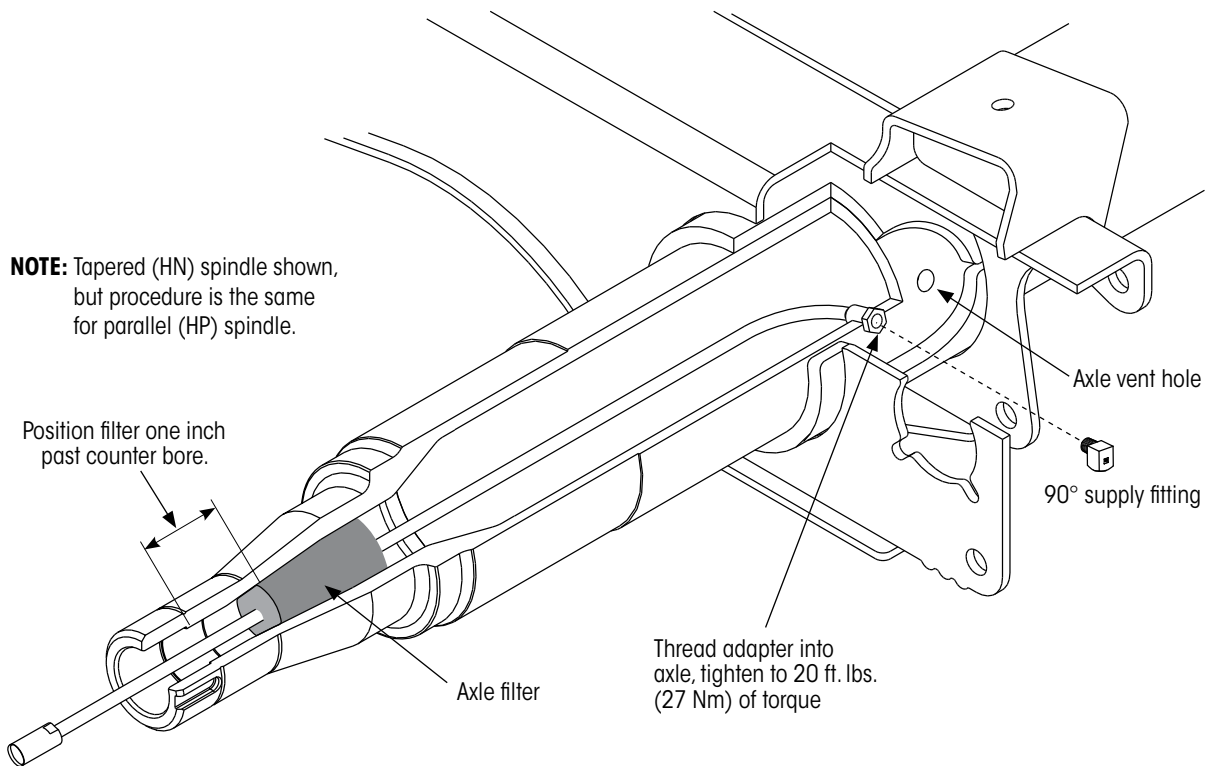

Figure 10: Installed position of axle hose assembly
4. **Tighten** fitting to 20 ft. lbs. (27 Nm) of torque (Figure 10).
6. **Push** axle filter into spindle cavity (Figure 10).
Repeat **Step 1** through **Step 7** on each axle and wheel-end. For axle vent installation, (Figure 10), refer to AXLE VENT INSTALLATION on page 18.
1. Thread 90° supply fitting into each axle hose as shown in Figure 10.